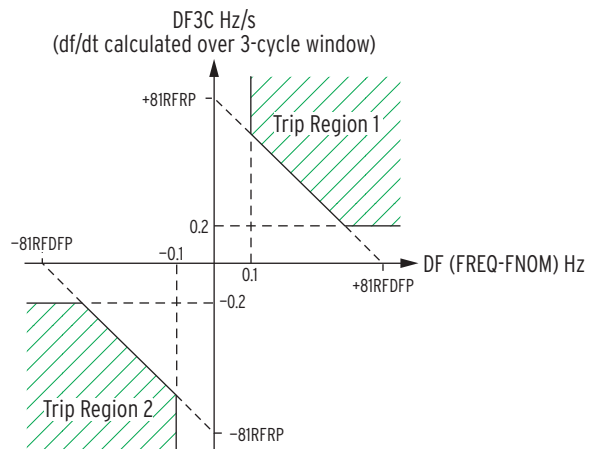

Figure 3 81RF Characteristic
The fast rate-of-change-of-frequency protection, 81RF, provides a faster response compared to frequency (81) and rate-of-change-of-frequency (81R) elements. The fast operating speed makes the 81RF element suitable for detecting islanding conditions. The element uses a characteristic (see *Figure 3*) based on the frequency deviation from nominal frequency ($\Delta f = \text{FREQ} - \text{FNOM}$) and the rate-of-change of frequency (DF3C) to detect islanding conditions. A time window of three cycles is used to calculate the value of DF3C. Under steady-state conditions, the operating point is close to the origin. During islanding conditions, the operating point enters Trip Region 1 or Trip Region 2 of the characteristic, depending on the acceleration or deceleration of the islanded system. (81RFDFP in Hz) and (81RFRP in Hz/sec) are the settings used to configure the characteristic.